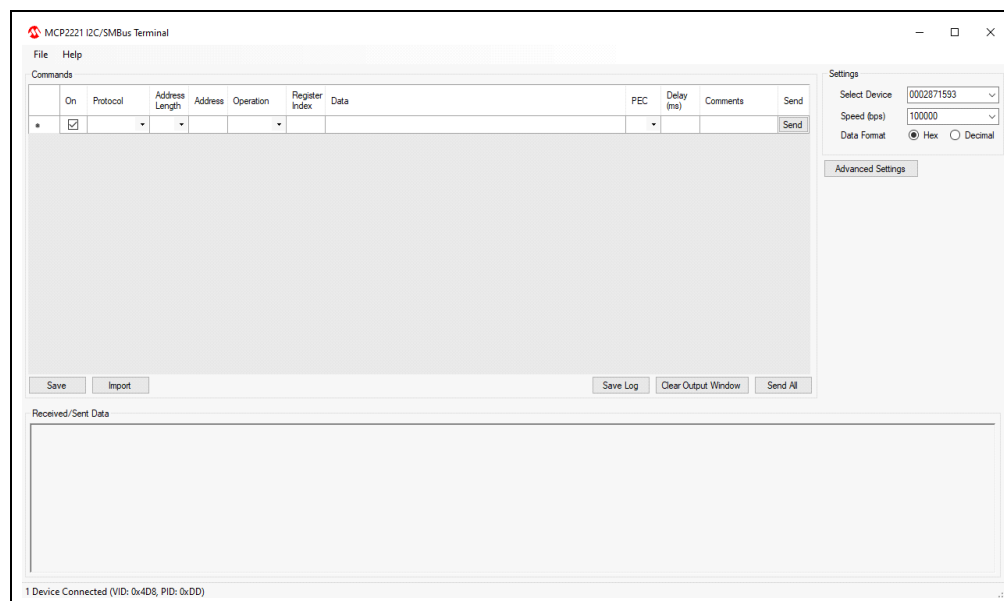

FIGURE 3-1: MCP2221A I²C/SMBus Terminal Window.
1. Install the MCP2221A I²C/SMBus Terminal software onto a personal computer (PC).
3. Run the MCP2221A I²C/SMBus Terminal PC Software. The GUI will appear as shown in Figure 3-1.